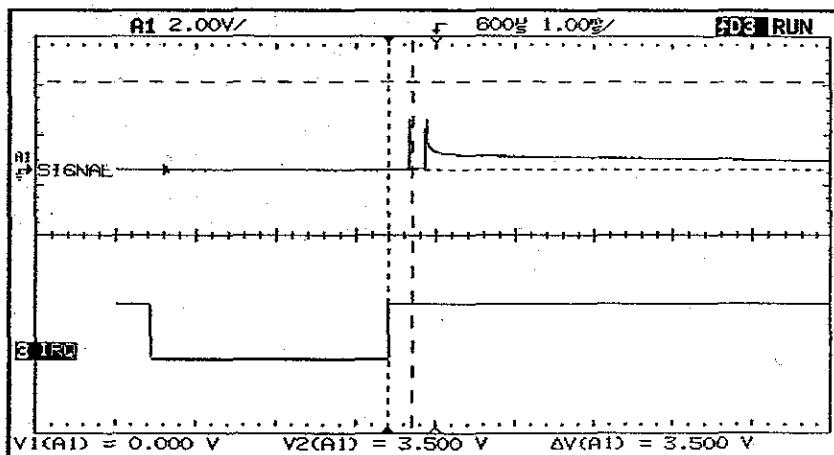

Figure 76
13. Place a disposable canister into the Monitor and close the display assembly onto the container cap. Verify that after $\approx 300\mu\text{s}$ from the rising edge of TP4, there is no $\approx 180\mu\text{s}$ pulse $>3.5\text{V}$. (see Figure 76)